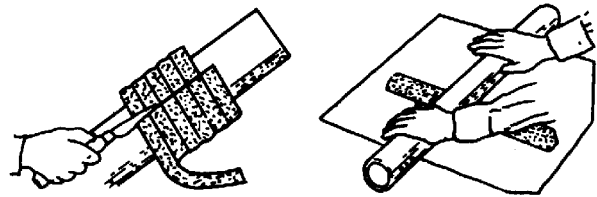

Figure F-12.
Step 1: Determine how much bulk packing will be required to fill the seal cavity and wrap it around a rod the same diameter as the shaft. With the packing wrapped around the rod, cut through each turn as shown in Figure F-12.